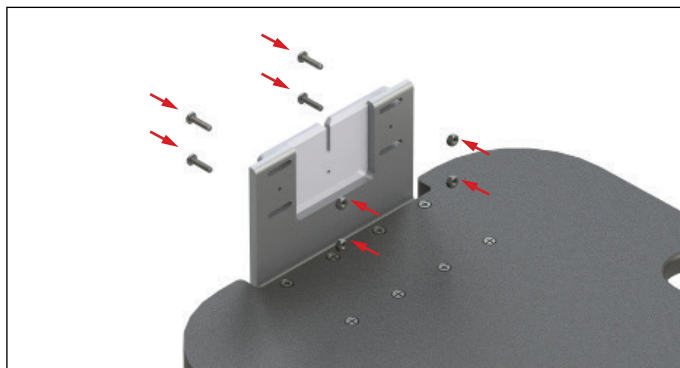

Fig. 5
4. Replace the 4 screws and 4 nuts using the #3 drive cross-head screw driver and $\frac{7}{16}$ " wrench (Fig. 5).